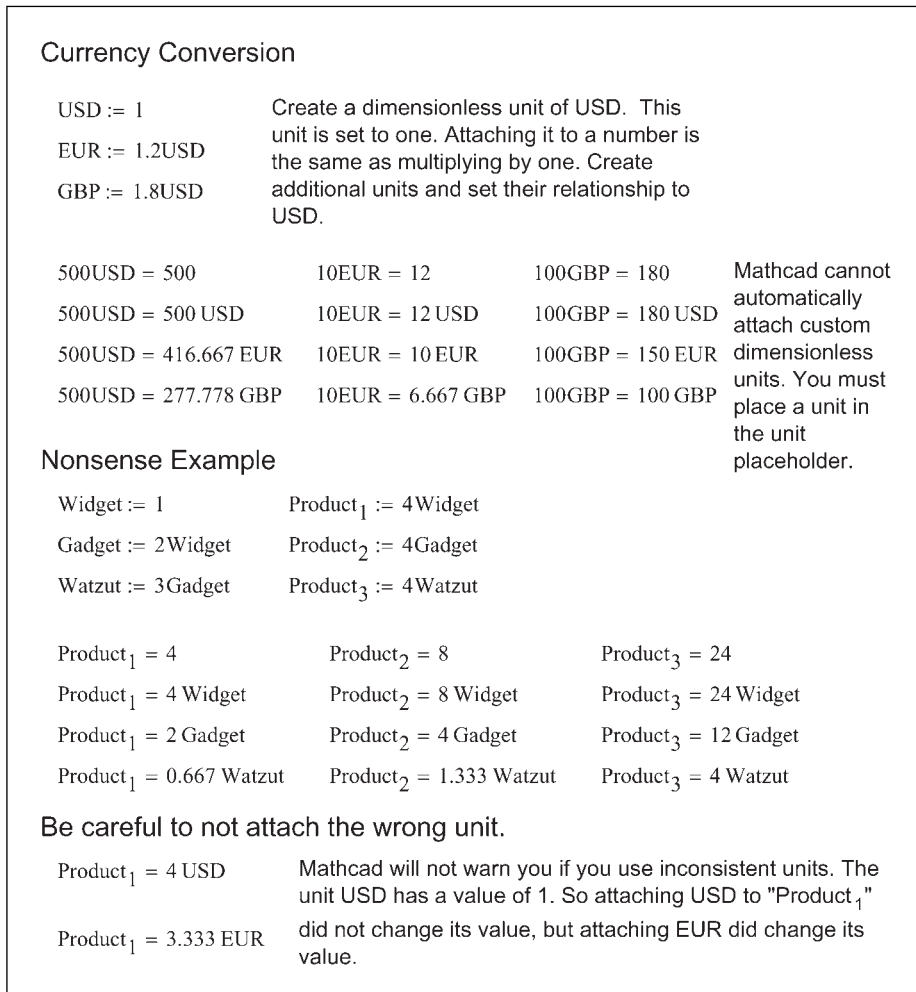

Figure 4.38 Dimensionless units
There may be times when you want to attach a unit to a number that is not one of the seven basic dimensions of length, mass, time, temperature, luminous intensity, substance or current or charge. In order to do this, type the name of your unitless dimension and define it as the number 1. This means that you can attach the unit to a number and not affect its value. Once you have defined a dimensionless unit, you can create other units that have relationships with this unit. Figure 4.38 gives two examples of dimensionless units. You can create dimensionless units for just about anything.
- Inconsistent units can create wrong results. See Figure 4.38.